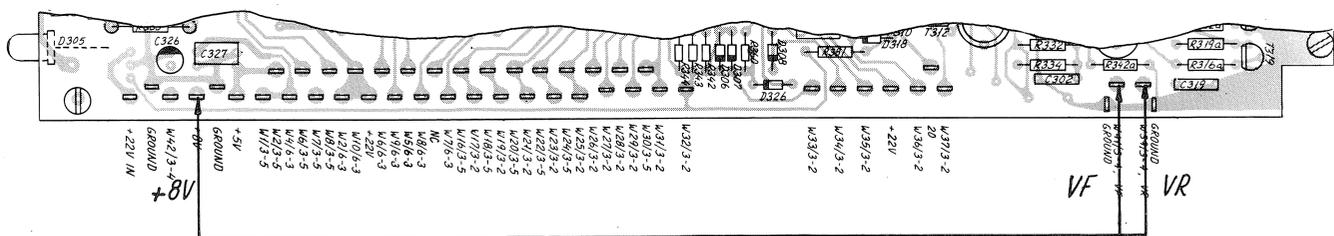

Fig. 2
5.1.16. Use the push button Invalid Tuning (fig. 2) to clock the counter until pin 7 goes high then move the voltmeter to IC311C pin 13.
5.1.21. Connect V_F W41/3-4 to +8V, see fig. 2.